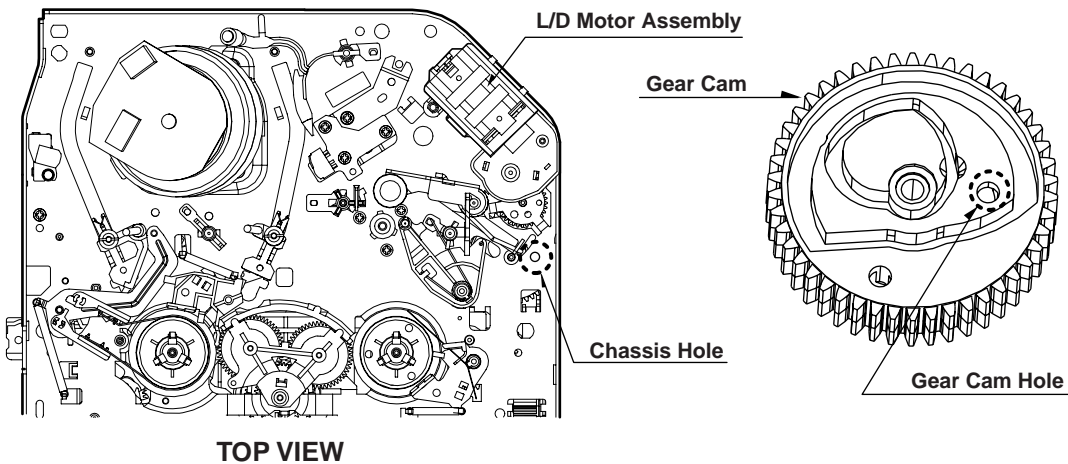

Fig. C-2
2) Remove the Top Cover and Plate Assembly Top, visually check if the Gear Cam Hole is aligned with the Chassis Hole as below Fig. C-2.
3) IF not, rotate the Shaft of the Loading Motor to either Clockwise or Counterclockwise until the Alignment is as below Fig. C-2.